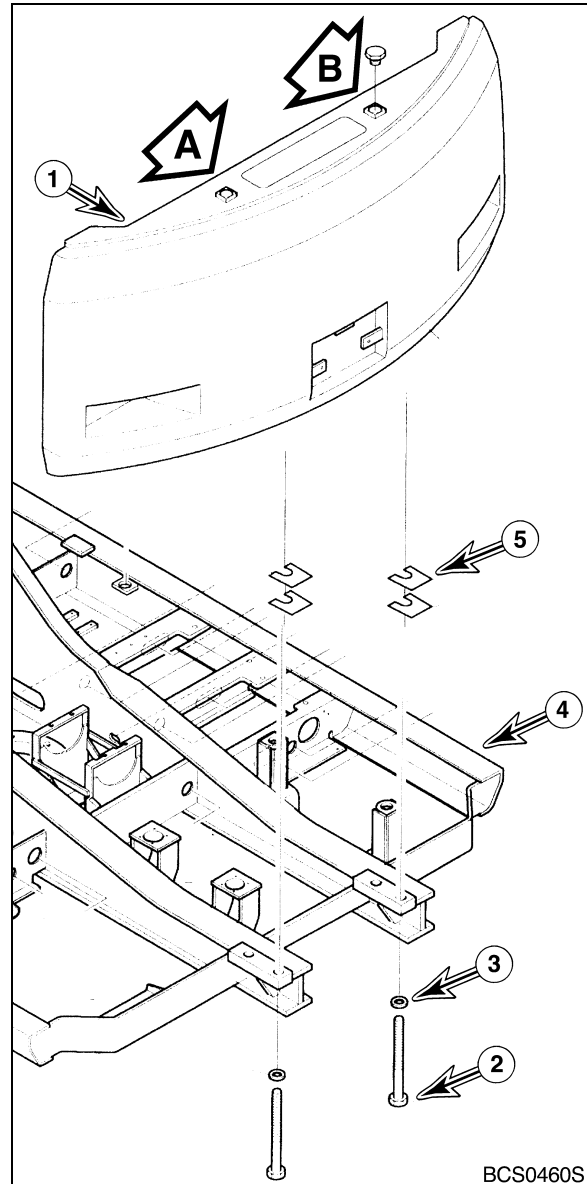

Figure 5
2. Using suitable lifting device capable of handling load raise counterweight (1, Figure 5) into position just above support frame (4) leaving counterweight suspended. Verify that counterweight is level and even.
NOTE: Leave counterweight (1, Figure 5) suspended 3 mm (0.125") above support frame (4) until all four mounting bolts (2) are started in counterweight mounting holes.
3. Install four bolts (2, Figure 5) with washers (3) into counterweight until washers contact support frame. Fully lower counterweight onto plates and support frame.
4. Using a feeler gauge, check for a gap between counterweight (1, Figure 5) and frame (4). Use an appropriate amount of shims (5) for each bolt location.
5. Remove four bolts (2, Figure 5) and washers (3).
6. Raise counterweight (1, Figure 5) so that shims (5) can be set into position on frame (4).
7. Lower counterweight (1, Figure 5) until it is 3 mm (0.125") above the shims (5) and install four bolts and washers. Apply Loctite #242 to mounting bolt threads.
8. Fully lower counterweight (1, Figure 5) onto shims (5), frame (4) and support frame (4) and finish tightening bolts (2).
NOTE: Tighten bolts (2, Figure 5) to values shown in following table.
9. Remove lifting device and lifting hooks from counterweight (1, Figure 5).
10. Install two caps in lifting holes (A, 13, Figure 5).